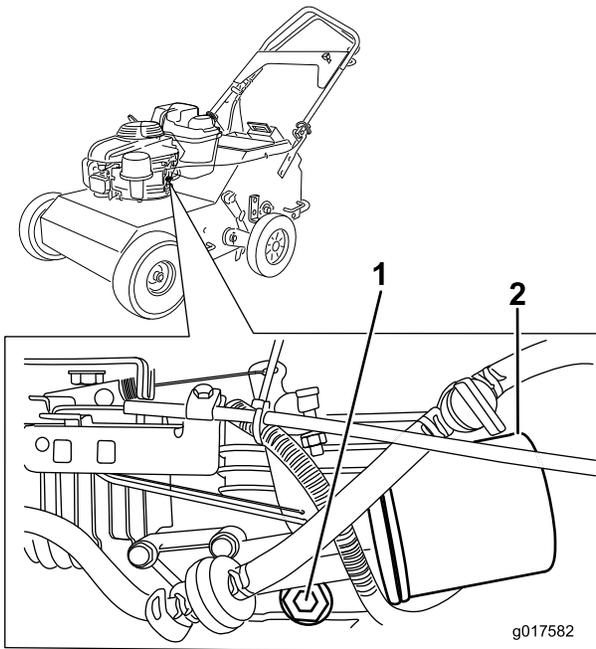

Figure 27
6. Remove the drain plug (Figure 27) and tip the machine so the oil flows to the pan.
2. Place a rag under the oil filter (Figure 27) to catch any oil that may leak out as you remove the filter.